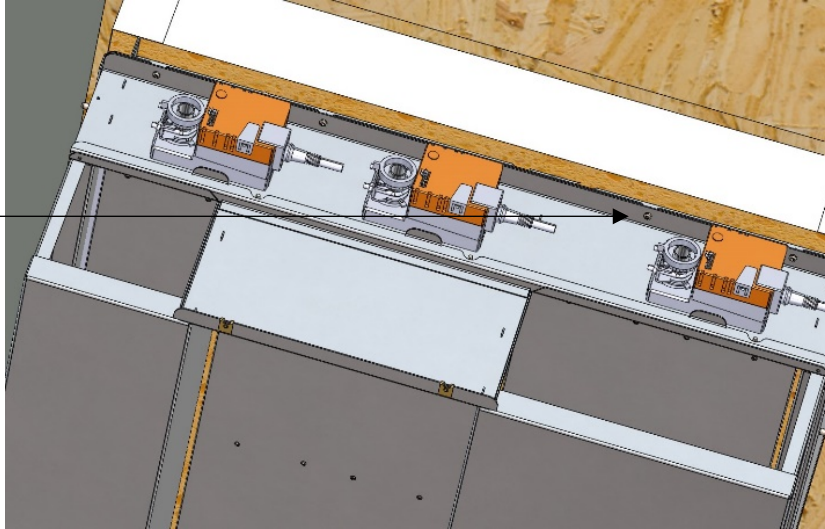

Figure 51 – Screw fixing locations for the internal diffuser.
4. Secure diffuser into place with the 8 pre-fitted screws on each long side of diffuser – see figures 51 & 52.